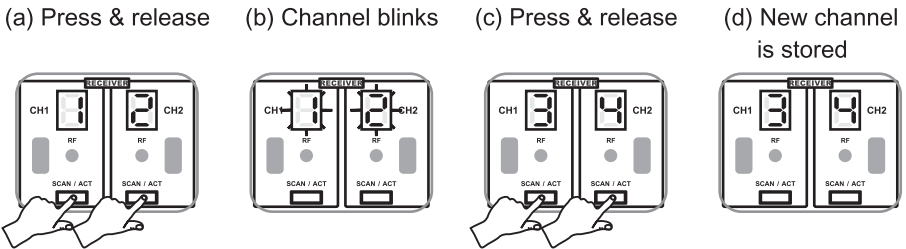

Fig. 3
- (1) To Scan for a Clear Receiver Channel: Press & hold the SCAN/ACT button ²⁴ until current channel blinks. Release the button, blinks will last for 10 times and stop on the current channel. During blinking, press & release the SCAN/ACT button again and the receiver scans and sets at a clear channel automatically. Then the new channel will be stored, Fig. 3.